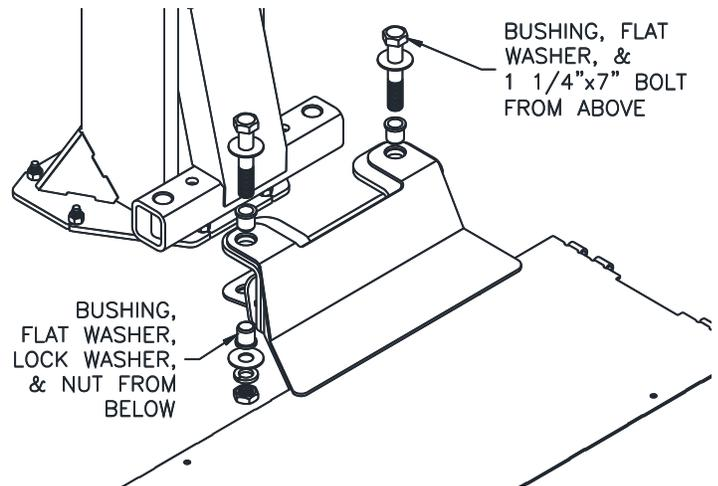

Fig. 3 ATTACHING MAIN STRUCTURES
3. Install the left and right Pad Adapter Main Structures as shown in **Fig. 3**. Note Pad Adapter orientation in **Fig. 1**. This 1 1/4" bolted connection should only be tightened to approximately **20 ft-lbs for now** (tight enough to remove the gaps, but not so tight that it limits the ability to level the Pad Structures).